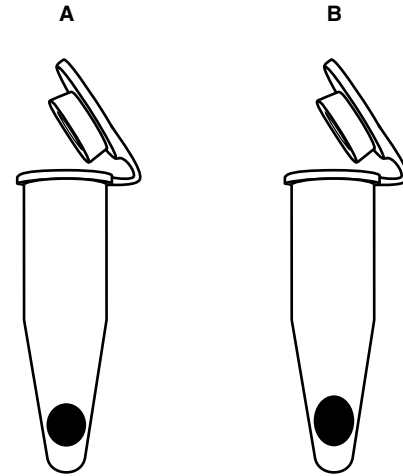

Fig. 2.1. Pellet sizes.
5. Compare the pellet size of your samples with the pellet sizes in Figure 2.1. A pellet size between the size range in Figure 2.1 will give a sufficient number of cells for sample preparation. It is advisable to keep the pellet size within the size ranges provided below.
- a. If the pellet is too small, add more of the overnight culture to the tube. Pellet the cells and aspirate off supernatant with a pipet. Repeat this step until the pellet size is between A and B in Figure 2.1.
- b. If the pellet is too large, resuspend the pellet in 50 μ l of Cell Suspension buffer. Pipet off some of the resuspended cells. Pellet the cells and aspirate off supernatant with a pipet. Repeat this step until the pellet size is between A and B in Figure 2.1.
1. For organisms that do not grow well in broth media, fresh growth of a pure isolate from solid media is suitable. Using a sterile inoculating loop, scrape up an amount of cell mass between the size of the pellets in tubes A and B shown in Figure 2.1, and resuspend in a microcentrifuge tube containing 1 ml sterile saline or broth media. Avoid scraping up the solid media. Prepare one tube per sample.
3. Compare the pellet size of your samples with the pellet sizes in Figure 2.1. A pellet size between the size range in Figure 2.1 will give sufficient number of cells for sample preparation. It is advisable to keep the pellet size within the size ranges in Figure 2.1.